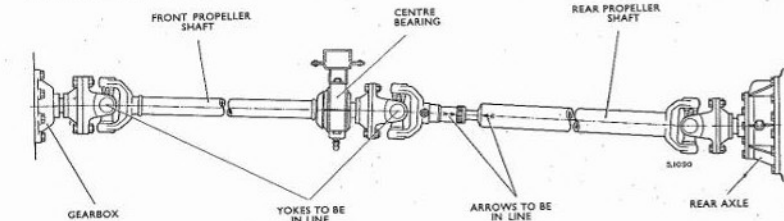

Fig. D.15. Transmission arrangement
3. Secure the rear propeller shaft sliding universal joint to the rear driver coupling on the front propeller shaft, using new shakeproof lockwashers under the heads of the nuts, noting that the flange yoke lugs on the front and rear propeller shafts are in line (see Fig. D.15).
lugs of the front and rear propeller shafts are in line (see Fig. D.15). Ensure that new shakeproof lock-washers are fitted under the heads of the coupling securing nuts.
2. Connect the front and rear propeller shafts ensuring that the flange yoke lugs on each shaft are in alignment as shown in Fig. D.15.